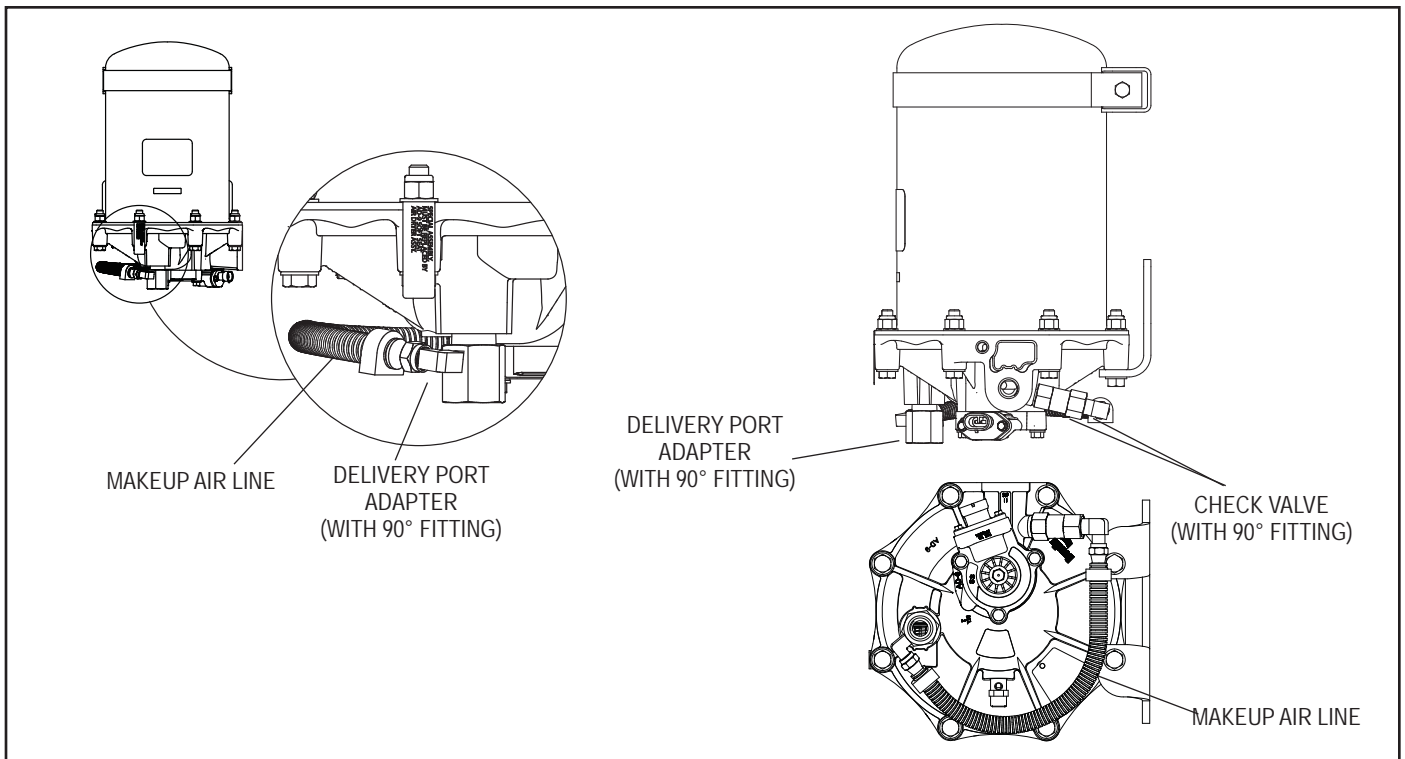

FIGURE 11 - BENDIX® AD-9® DROP IN AIR DRYER
1. Before beginning, note the approximate angle of the fittings, check valve and the general routing of the makeup line on the air dryer. It is important that the same approximate routing be duplicated during re-installation. See Figure 11.